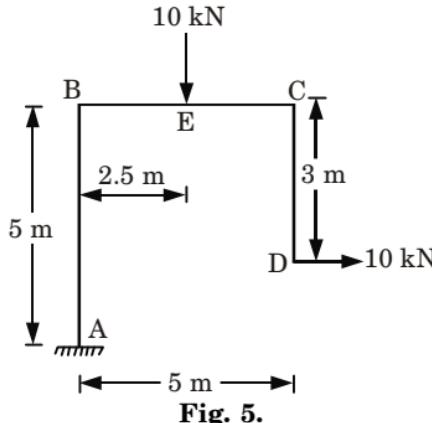

Fig. 5.
- b. Determine the horizontal deflection at a free end of the frame as shown in Fig. 5, by using unit load method.